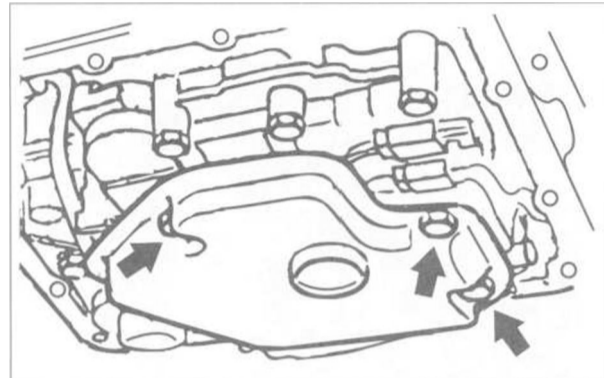

Fig. 25. ATF fluid strainer mounting bolts (arrows! on A4S 31 OR.
4. Remove strainer mounting screws and remove strainer together with gasket. See Fig. 25.